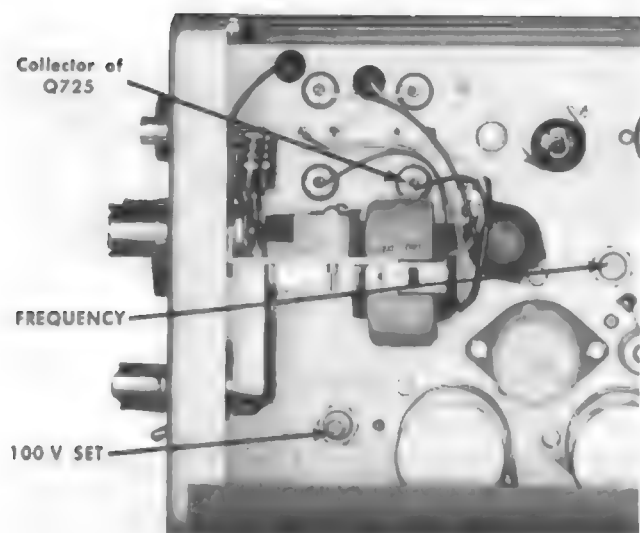
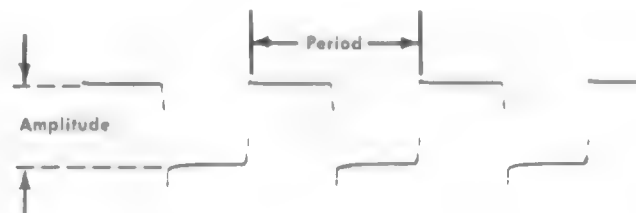

Fig. 6-4. Right side view, front portion of the Type 109, showing the location of the internal adjustments and the test point.
Fig. 6-5. Waveform measuring points.
- f. Adjust the 100 V SET control (see Fig. 6-4) to obtain a reading of exactly 100 volts.
- First, rotate the FREQUENCY control (see Fig. 6-4) fully clockwise and check the waveform according to the data given in Table 6-3 and Fig. 6-5. (Use the graticule markings on your test oscilloscope to determine the period and amplitude of the waveform.)
(1) Fully clockwise	2.77 cm or less	360 cps or more	18 volts
(2) Fully counter clockwise	3.6 cm or more	275 cps or less	12 volts
- Then, rotate the FREQUENCY control fully counter clockwise and check the minimum frequency range based on the information given in Table 6-3 and Fig. 6-5.